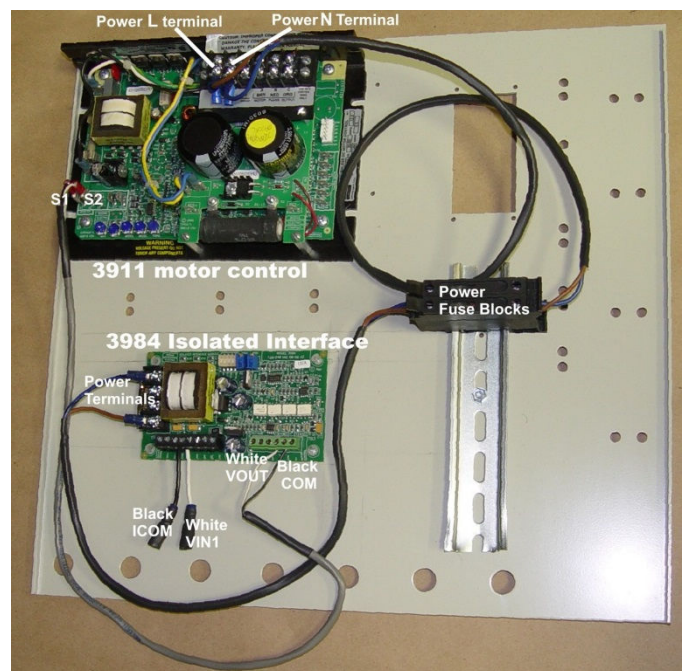

Figure 1 Motor control Panel Layout
4.5 Using the supplied Mounting Template for the 3984 Isolated Interface Module, mark for 4 holes. Drill using 4 mm (5/32 inch) drill bit. In a convenient place on the motor control panel. (see Figure 1)
- 4.8 Take these same wires and Plug black S1 into ICOM and white S2 into VIN1 connectors on the 3984 Isolated Interface Module. (see Figure 1)